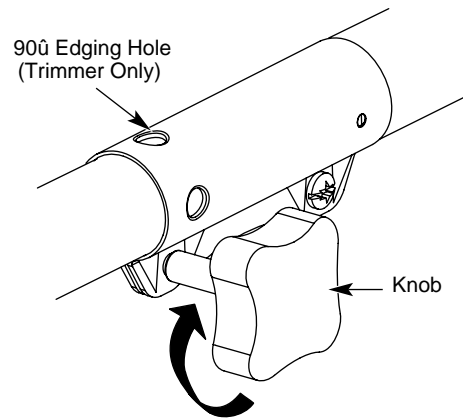

Fig. 25
3. Turn the knob clockwise to tighten (Fig. 25).
For edging (when using the line head cutting attachment with EZ-Link[®] models), lock the release button of the cutting attachment into the 90° edging hole (Fig. 25).